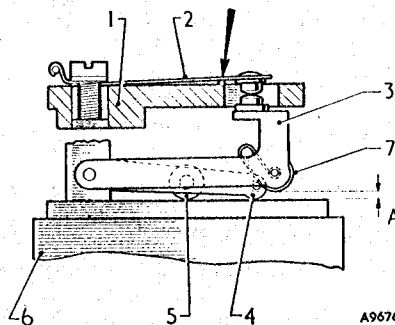

Fig. 14. The contact gap setting on earlier-type rocker assemblies
30. Check the gap between the points indirectly by carefully holding the contact blade against the rib on the pedestal without pressing against the tip (see Fig. 14). Then check if a $.030$ in. ($.8$ mm.) feeler will pass between the fibre rollers and the face of the coil housing. If necessary the tip of the blade can be set to correct the gap.